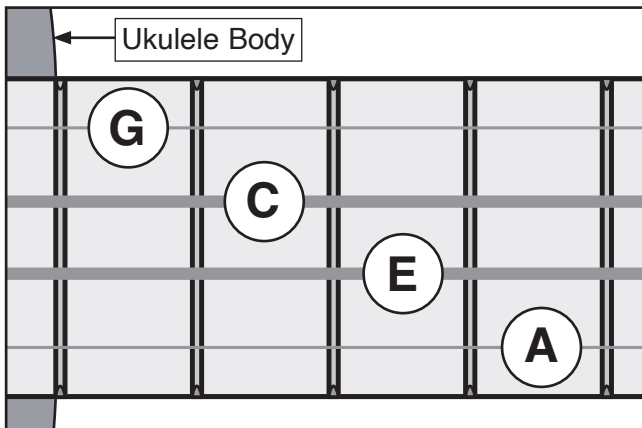

Figure 30. Standard tuning notes.
- The goal when tuning is to make the strings in tune with one another. Standard tuning is shown in **Figure 30**.